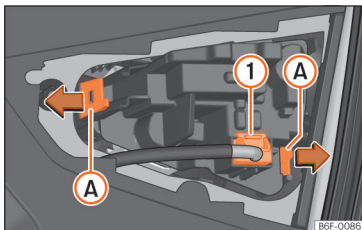

Fig. 54 Remove the bulb holder.
- Remove the bulb connector »» **Fig. 54 ①**.